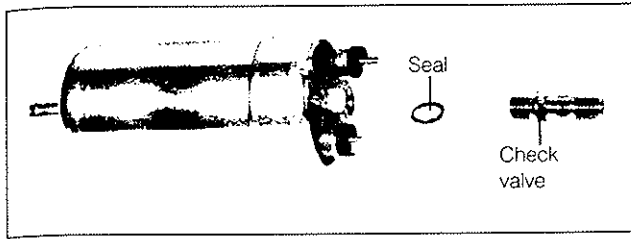

Fig. 5-17. Typical fuel pump with removable check valve.
**Fuel-Pump Check Valve.** The fuel-pump check valve is part of the outlet fitting on the pump, as shown in Fig. 5-17, but early models may vary, so check your shop manual. To check the valve, disconnect the fuel supply line to the fuel distributor and attach the pressure gauge. Make sure that the gauge valve is closed. Run the fuel pump until pressure reaches 5 bar (78 psi) and shut off the pump. If residual pressure falls below specification, replace the pump check valve. Before you remove the fitting, remove the gas tank cap, clamp the pump inlet hose so no fuel will escape, and clean the fittings. Install a new seal and check valve and torque to specification. Check all connections with the pump running and redo the leakage test.
**Fuel-Pump Check Valve.** The check valve is part of the outlet fitting on the pump. See earlier Fig. 5-17. To check the valve, disconnect the fuel supply line to the fuel distributor and attach the pressure gauge. Make sure that the gauge valve is closed. Briefly run the fuel pump until pressure reaches 5 bar (73 psi) and shut off the pump. If residual pressure falls below specification, replace the pump check valve. Before you remove the fitting, remove the gas tank cap, clamp the pump inlet hose so no fuel will escape, and clean the fittings. Install a new seal and check valve and torque to specification. Check all connections with the pump running and redo the leakage test.